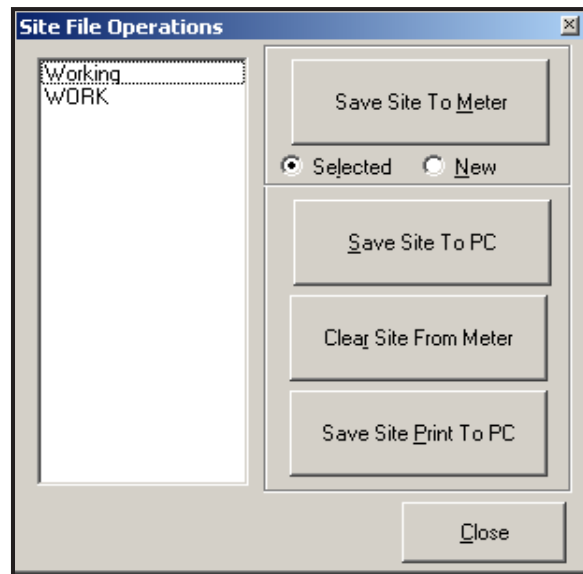

Figure 51: The *Site File Operations* Window
- Click on the [Site Files] button. The *Site File Operations* window (shown in Figure 51) opens.
1. Highlight the desired site in the left pane. (See Figure 51 on page 133.)
1. Highlight the site in the left pane. (See Figure 51 on page 133.)